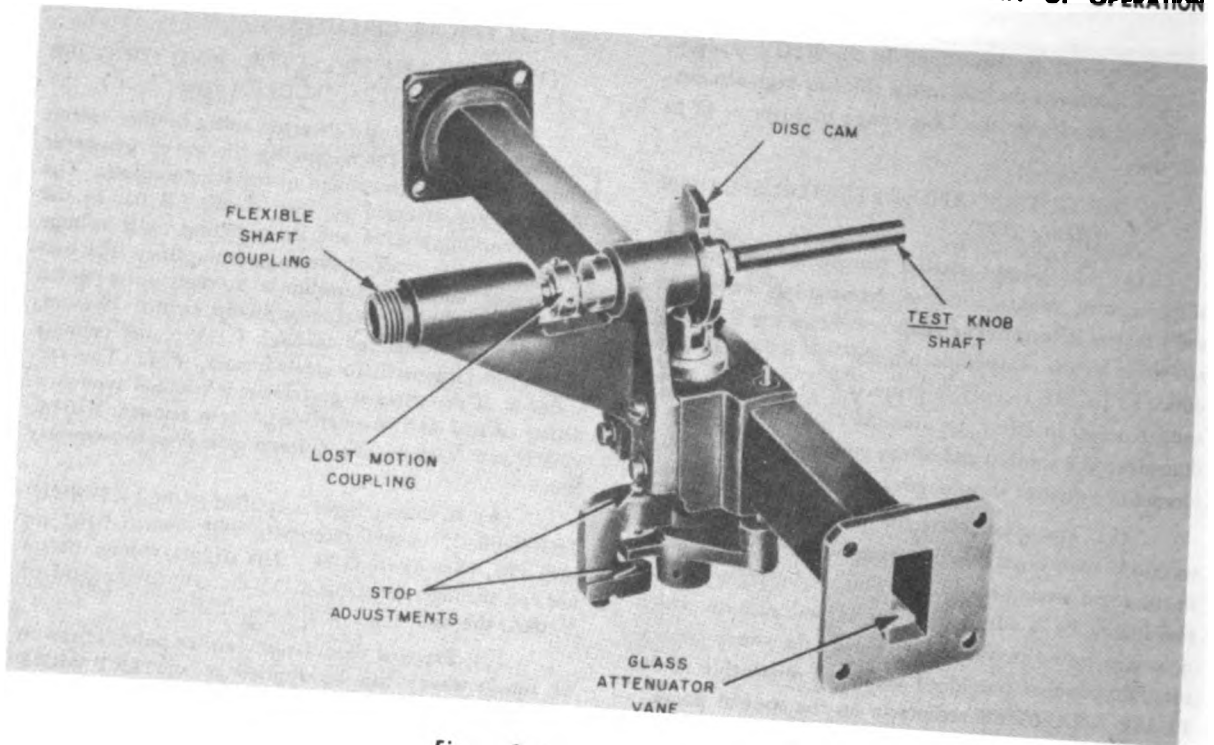

Figure 2-11. Step Attenuator
(6) STEP ATTENUATOR (figure 2-11).